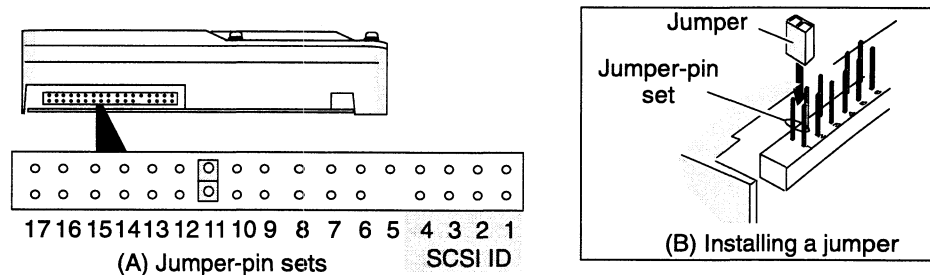

Figure 2 Jumper settings when the drive is installed in an AViiON 6966 mass-storage subsystem
1. For an AViiON 6966 mass-storage subsystem, install a jumper on jumper-pin set 11 (Figure 2).